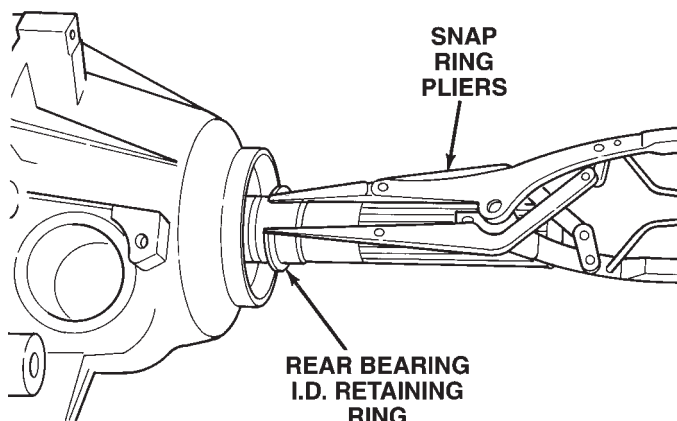

Fig. 11 Output Shaft Rear Bearing Retaining Ring
(7) Remove the rear output bearing I.D. retaining ring (Fig. 11).
(8) Remove the bolts holding the rear retainer to the rear case half.
(9) Tap rear retainer with rawhide or rubber mallet to loosen sealer bead.